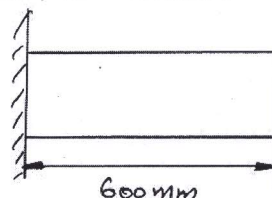

Fig.Q10(b)
b. Determine the natural frequency of longitudinal vibration of the bar shown in Fig.Q10(b). Take  $E = 200\text{GPa}$ ;  $\rho = 7840\text{ kg/m}^3$ ;  $A = 240\text{mm}^2$ . (10 Marks)